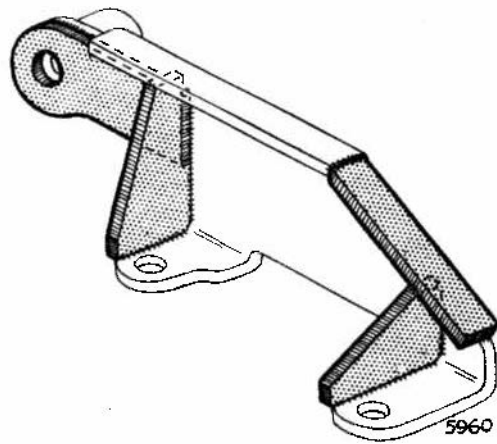

Fig. 10. Throttle shaft bracket on front carburettor—stiffening details.
11. Throttle Shaft Bracket—This bracket, which is mounted on the front carburettor should be stiffened up by welding on similar thickness mild steel as illustrated by the grey parts in Fig. 10.